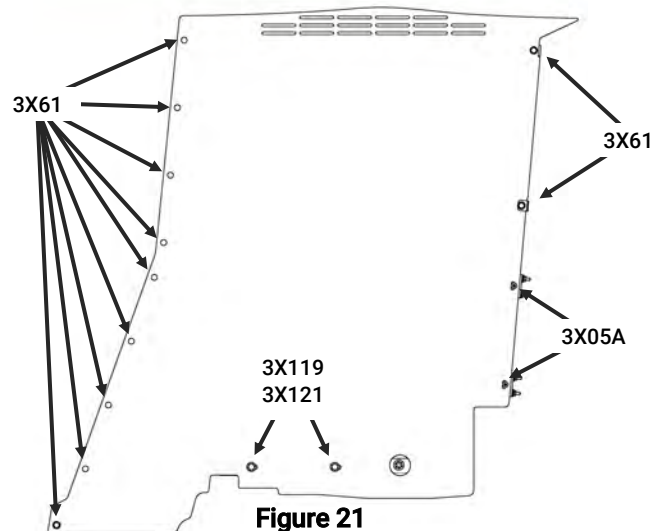

Figure 21
1. Locate (11) [3X61] carriage bolts, (11) [3X16Z] whiz nuts, (2) [3X05A] screws, (2) [3X121] 3/8" washers, and (2) [3X119] 3/8-16X1.5" hex bolts.
2. Position the Divider and align the Lower Divider Brackets on the barrier with the corresponding slots in the Divider. Loosely thread the (2) [3X05A] screws through the Divider into the Brackets.
3. Insert the (2) [3X119] hex bolts with the (2) [3X121] washers on them through the Divider, Seat, and into the Lower Seat Bracket. Leave these fasteners loose.
4. Align the Upper Divider Brackets with the corresponding slots on the Divider. The bracket at the top of the window goes against the prisoner side of the Divider and the bracket at the bottom of the window goes against the driver side of the Divider. Insert (1) [3X61] carriage bolt into each of the locations from the prisoner side of the Divider and loosely secure with (1) [3X16Z] whiz nut per carriage bolt.
5. Bring the Divider and the Partition together and align the corresponding holes. Insert (8) [3X61] carriage bolts from top to bottom through the Divider and Partition; the heads of the carriage bolts should be facing the driver side of the vehicle. Secure each fastener with (8) of the [3X16Z] whiz nuts. The final (1) [3X61] carriage bolt is inserted through the Lower Extension Panel from the prisoner compartment and secured with the final (1) [3X16Z] whiz nut. Figure 21 shows the Divider with the fastener locations called out.